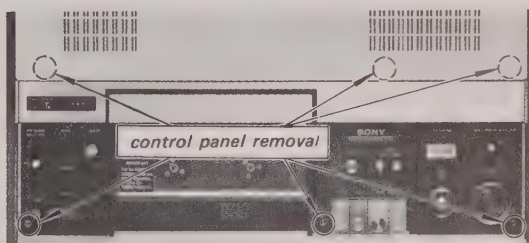

Fig. 4-5. Top view
4. Remove the six screws shown in Fig. 4-5.